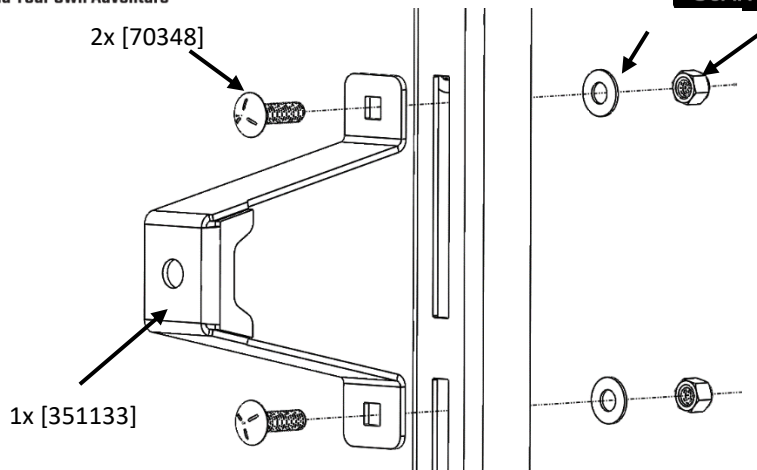

Figure 16: Mounting Tire Bracket
34. Loosely fasten the Tire Mount Bracket to the slotted channel, going through the bracket first, using the 3/8" carriage head bolts, washer, and nut 2x [70028] mount. Reference Figure 16.